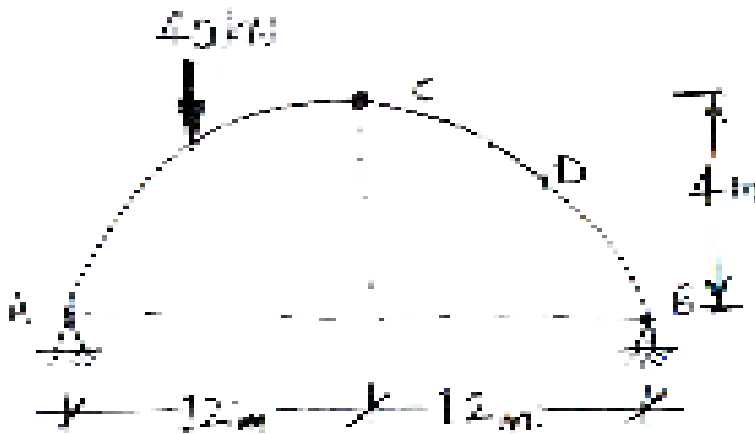

Fig. 19
11. a) A three hinged Parabolic Arch with hinges at A and B and at crown, C, is loaded as shown in Fig. 19.